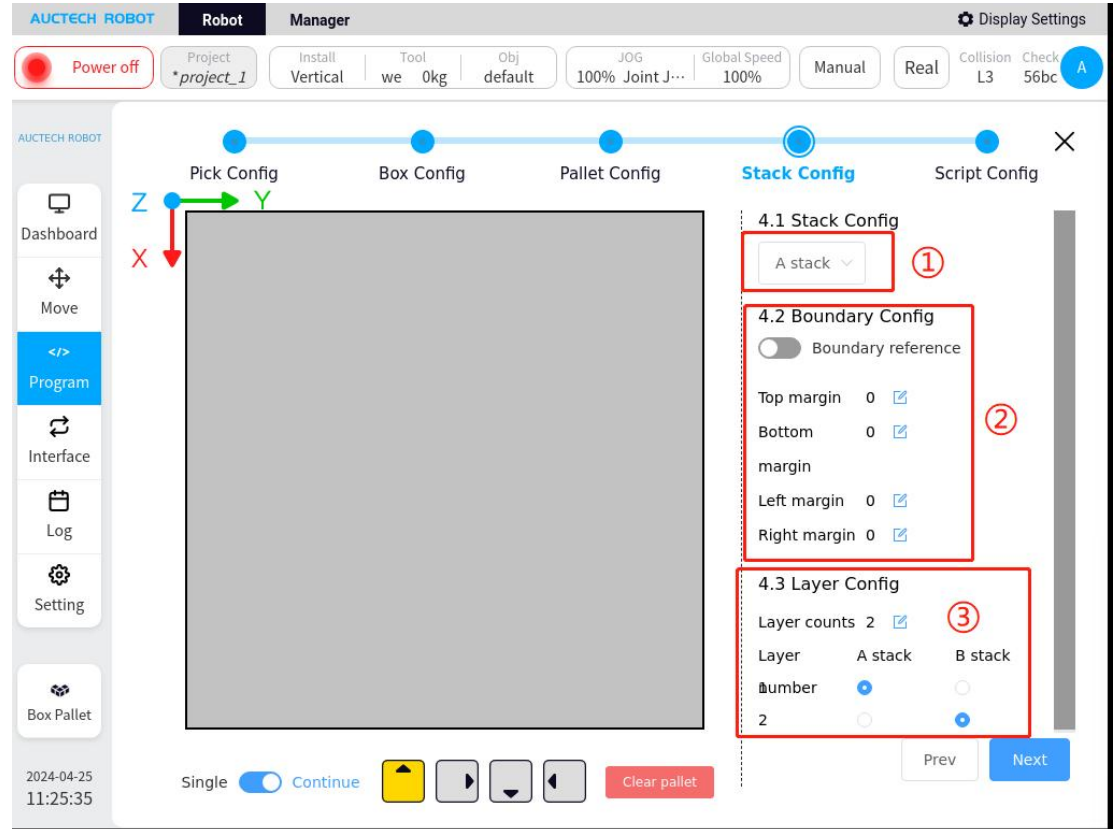

Figure 26
1、 Set stack type parameters, as shown in Figure 26.
- ① Location: Choose A stack type
- ② Position: Set the boundary reference and enter the actual value in the margin